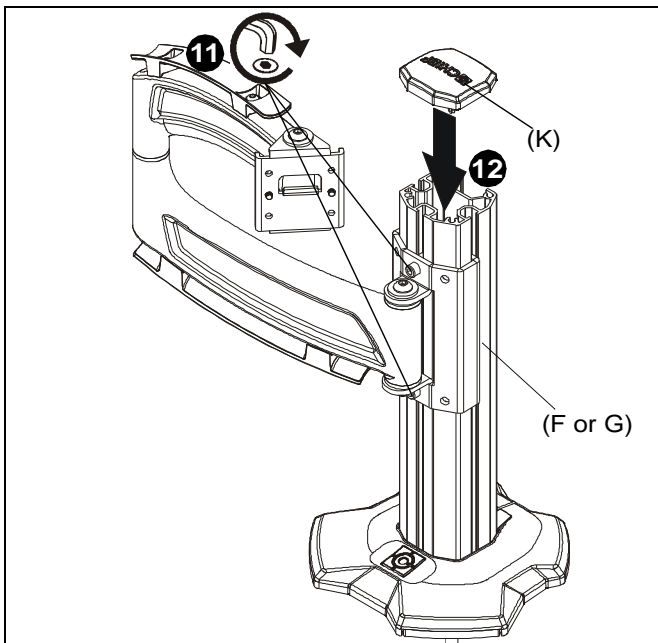

Figure 4
11. Tighten two socket head cap screws to secure column arms (F or G) at desired height. (See Figure 4)
12. Install column cap (K) to column (F or G). (See Figure 4)